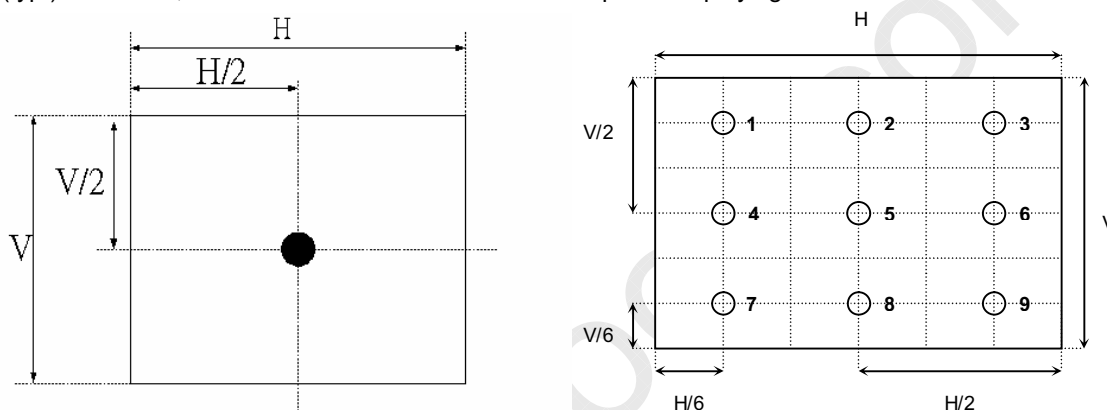

Fig.4-2 Optical measurement point
2. Surface luminance is luminance value at point 1 across the LCD surface 50cm from the surface with all pixels displaying white. From more information see FIG 4-2. When  $I_{BL} = 6.5\text{mA}$ ,  $L_{WH} = 450\text{cd/m}^2$  (typ.)  $L_{WH} = L_{on1}$ , Where  $L_{on1}$  is the luminance with all pixels displaying white at center 1 location.